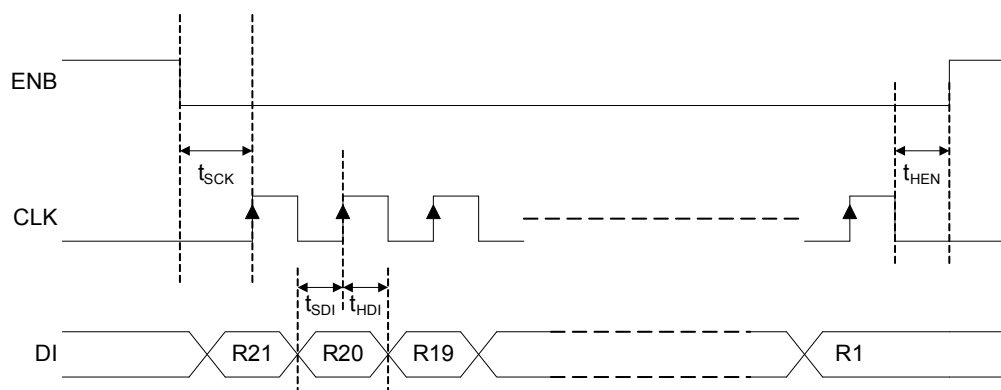

FIGURE 28. TIMING DIAGRAM FOR PROGRAMMING THE INTERNAL REGISTERS OF THE QLx4600-SL30
Pins 16 (DI), 45 (ENB), and 46 (CLK) are used to program the registers inside the QLx4600-SL30. Figure 28 shows an exemplary timing diagram for the signals on these pins. The serial bus can be used to program a single QLx4600-SL30 according to the following steps: